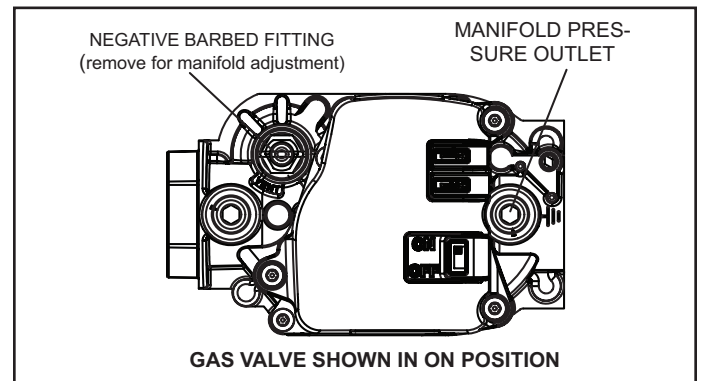

Figure 7. Gas Valve
2. Remove the heating compartment access panel. Turn the automatic gas valve switch to the OFF position. See Figure 7.
6. Move gas valve switch to OFF. See Figure 7.
7. Wait five (5) minutes for any gas to clear out. If you then smell gas, STOP! Immediately call your gas supplier from a neighbor's phone. Follow the gas supplier's instructions. If you do not smell gas, go to the next step.
8. Move gas valve switch to ON. See Figure 7.
When testing supply gas pressure, use the 1/8" N.P.T. supply tap located on the gas valve to facilitate test gauge connection. See Figure 7. Check gas line pressure with unit firing at maximum rate. Low pressure may result in erratic operation or underfire. High pressure can result in permanent damage to gas valve or overfire.
1. Remove the negative barbed fitting as shown in Figure 7 and using a screw driver make adjustment to increase or decrease manifold pressure.